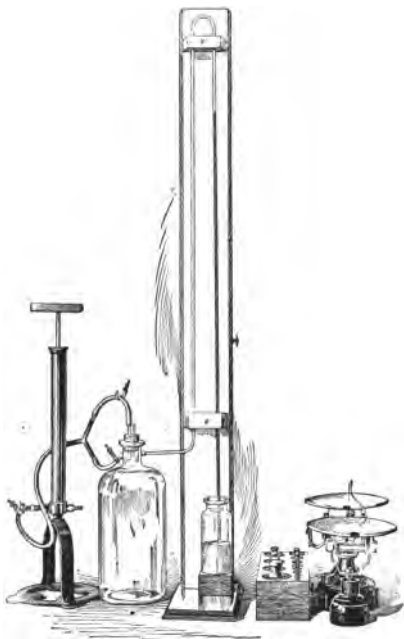

FIG. 4
2. Assemble apparatus as in figure 4.